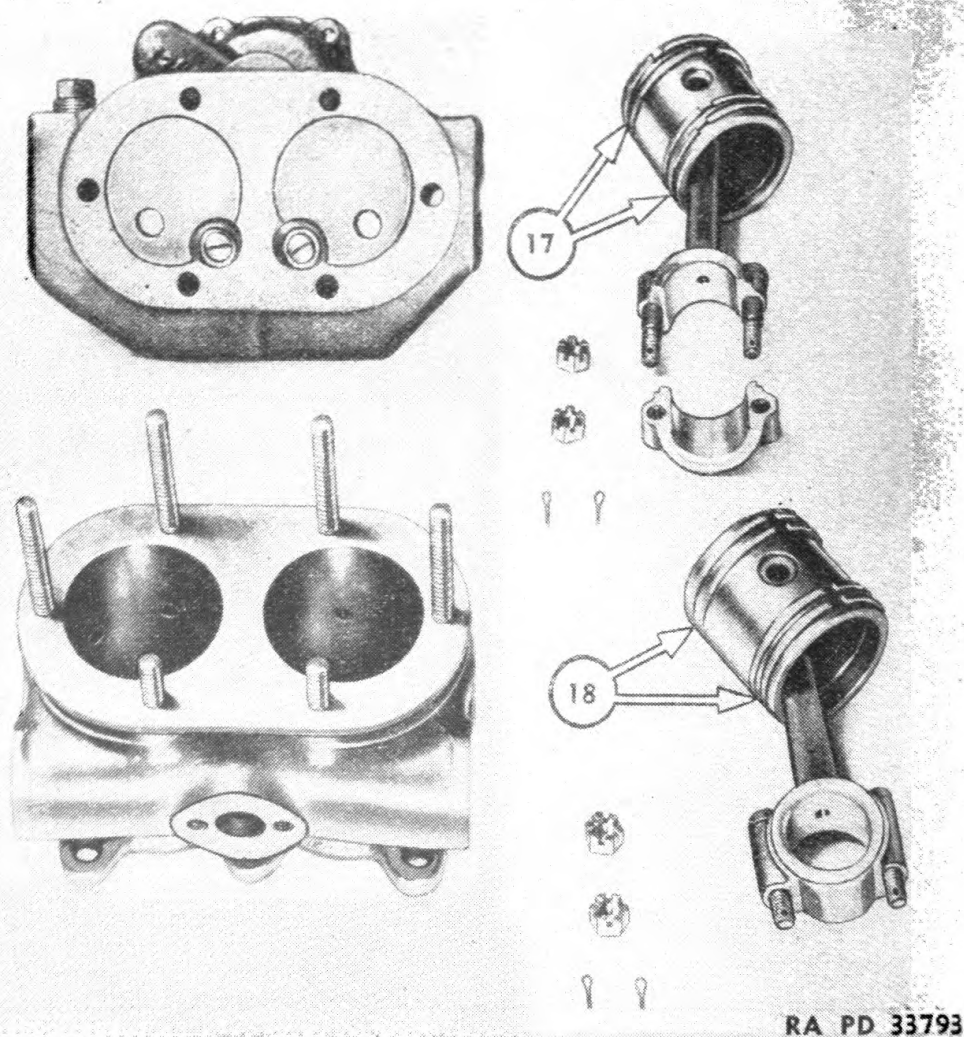

FIGURE 76.—Connecting rod and piston assemblies.
69. Connecting rod and piston assemblies.—Remove block, then connecting rod and piston assemblies (fig. 76), taking care to note their location. The pistons have an upper and lower compression ring (18) and an upper and lower oil ring (17). The connecting rod bearings should be assembled in their proper location. Remove wire lock inside wrist pin to remove it.